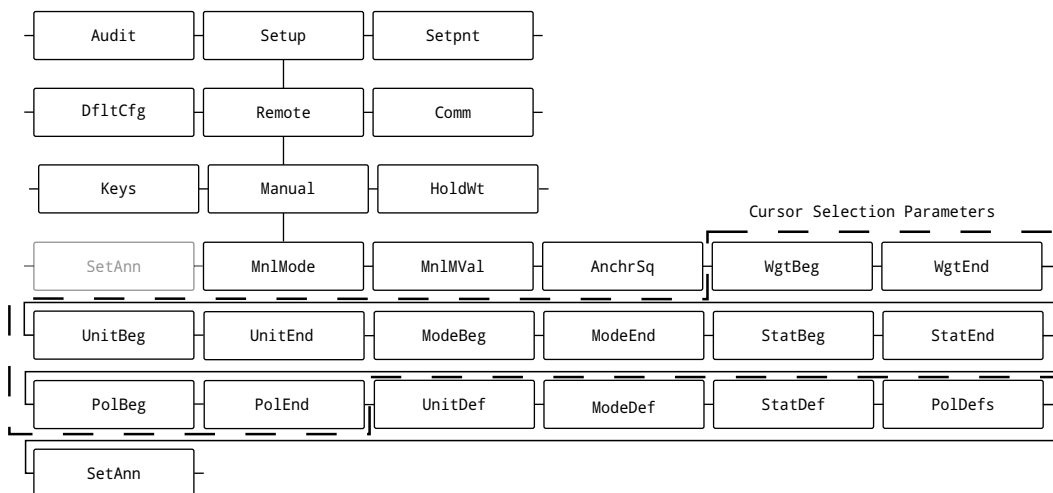

Figure 5-6. Manual Mode Cursor Selection Parameters Menu Paths
Figure 5-6 displays a menu path to Manual Mode parameters that require cursor selection.
*see Figure 5-6 on page 77
Figure 5-6 displays a menu path to Manual Mode parameters that require text string configuration.